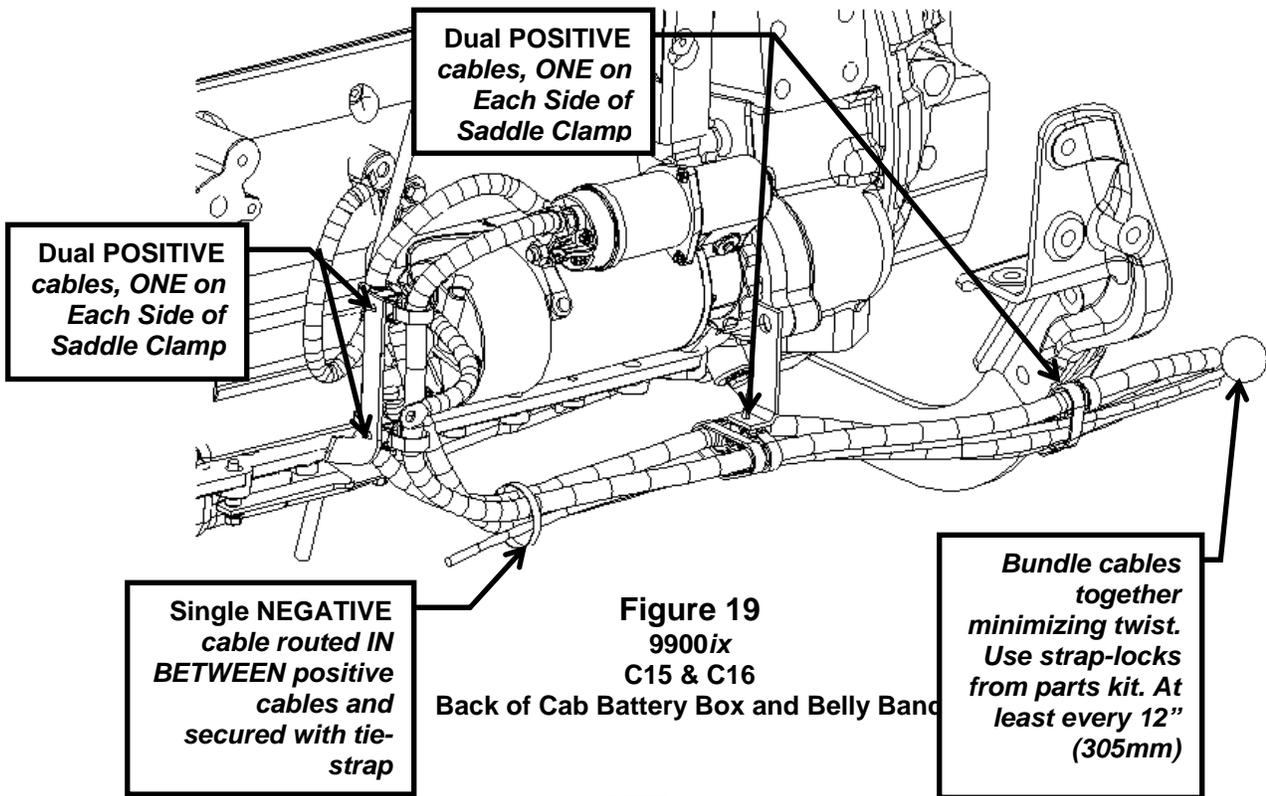

**Figure 15**
**Forward Portion of Routing Same as Figure 15**